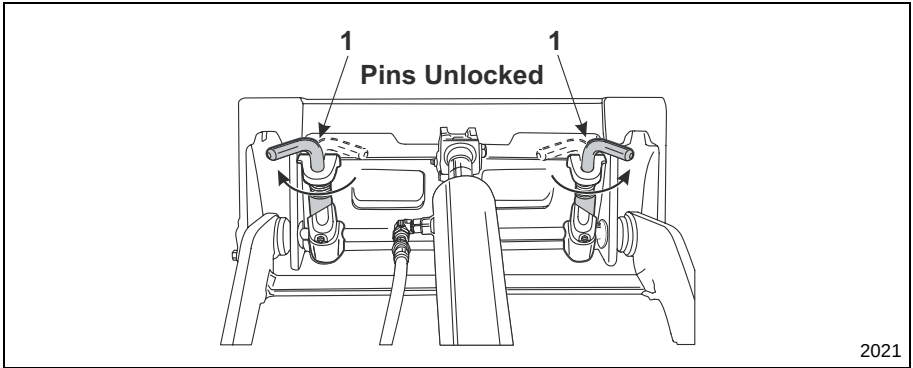

Figure 14 Attachment Locks in Unlocked Position
9. Rotate the attachment lock pins to the UNLOCKED position (Item 1, **Figure 14**).